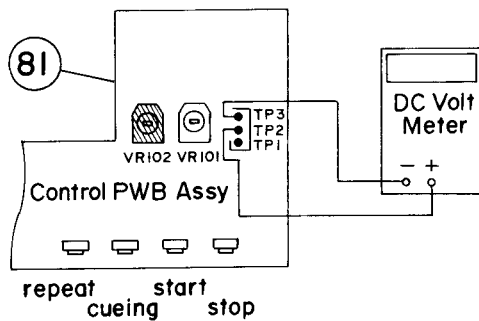

Figure 27
- (4) Re-connect D.C. voltmeter between TP2 and TP3 terminals on Control PCB Assembly as shown in Figure 27.